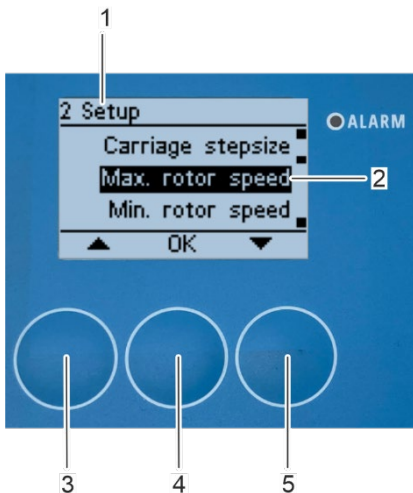

Fig. 129: Open submenu "maximum rotor speed"
1. Select the "Max. rotor speed" submenu (Fig. 129/2) with the arrow keys [up] (Fig. 129/3) and [down] (Fig. 129/5) in "2 Setup" submenu (Fig. 129/1).
2. Confirm the selection with [OK] (Fig. 129/4).